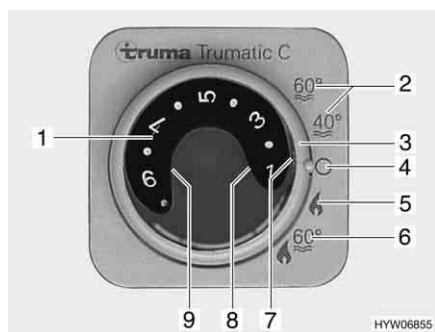

Fig. 54 Operating unit for heater/boiler
- Set the operating mode using the rotary switch (Fig. 54,3).
The heater selects the necessary burner setting according to the required room temperature. When the required room temperature is reached, the burner is switched off. The room temperature is measured by the temperature sensor next to the panel. In "Heater and boiler" operating mode (Fig. 54,6) water in the boiler is also heated. In the operating mode "Heater without boiler" (Fig. 54,5) the heater can be operated with an empty boiler.
- Turn the temperature control knob (Fig. 54,1) on the operating unit to the desired heating level.
- Set rotary switch (Fig. 54,3) to winter operation "Heater without boiler" (Fig. 54,5) or to winter operation "Heater and boiler" (Fig. 54,6).
Green indicator lamp (Fig. 54,7) is on.
- Set the rotary switch (Fig. 54,3) to "O" (Fig. 54,4).